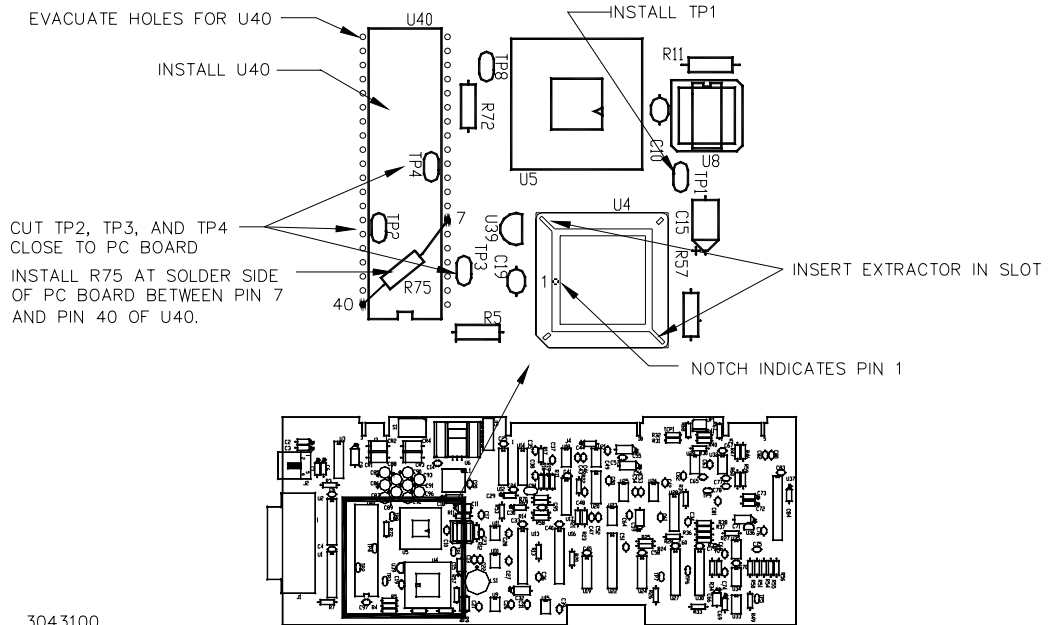

FIGURE 1. COMPONENT LOCATION
4. Cut test points TP2, TP3, and TP4 (see Figure 1) as close to the PC board as possible. Save test points for step 7
5. Evacuate the holes shown in Figure 1 for U40.
6. Install Bus Interface controller chip U40 from kit as shown in Figure 1 and solder in place.
7. Install one test point removed in step 4 in position TP1 as shown in Figure 1 and solder in place.
8. Install resistor R75 from kit on solder side of PC board as shown in Figure 1 and solder in place.
9. Locate the small depression or notch in the PROM U4 as shown in Figure 1. This is pin 1 of the PROM.
14. Insert the PROM into the socket, insuring pin one is as shown in Figure 1.